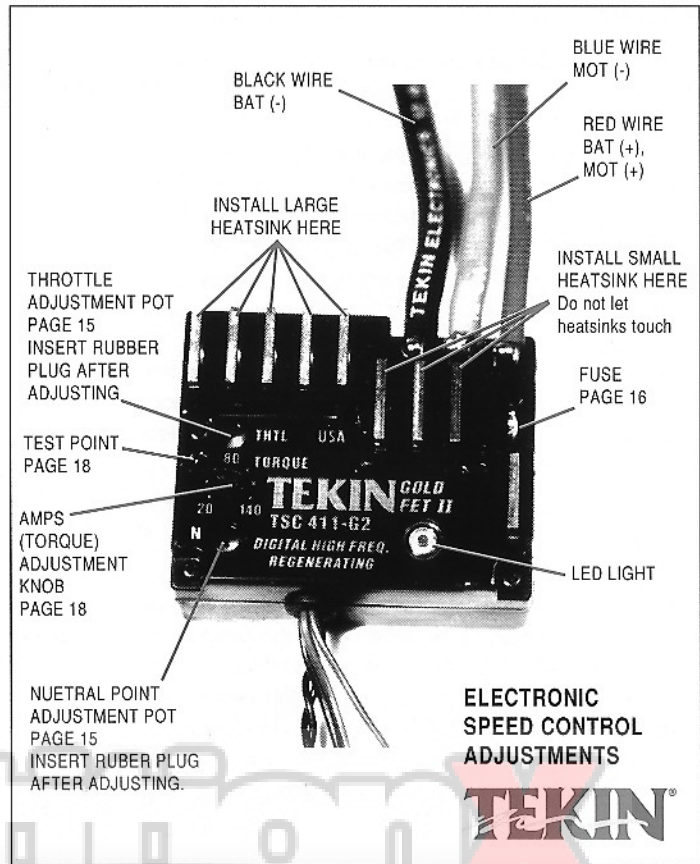

FIGURE 1
- A) Use double sided servo tape supplied to mount. Position unit for maximum air-flow over the heatsinks. Heatsinks are MANDATORY for all races less than 8 minutes (or any model which pulls more than 15 amps average current) and are recommended for 8 minute races. When installing heatsinks DO NOT USE SUPER GLUE or any type of glue or damage can result. If heatsinks are too loose, press end fins of heatsink inward to increase tension. Make sure the heatsinks are away from any metal where a short circuit could occur. See Figure 1, page 5.